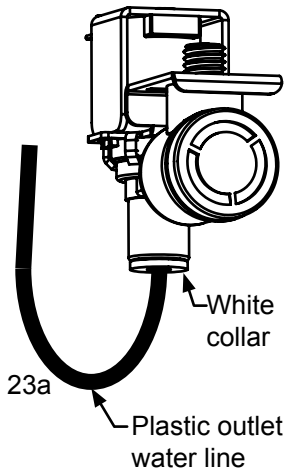

Figure 23a
8. Reconnect the water valve outlet water line. (See Figure 23a).